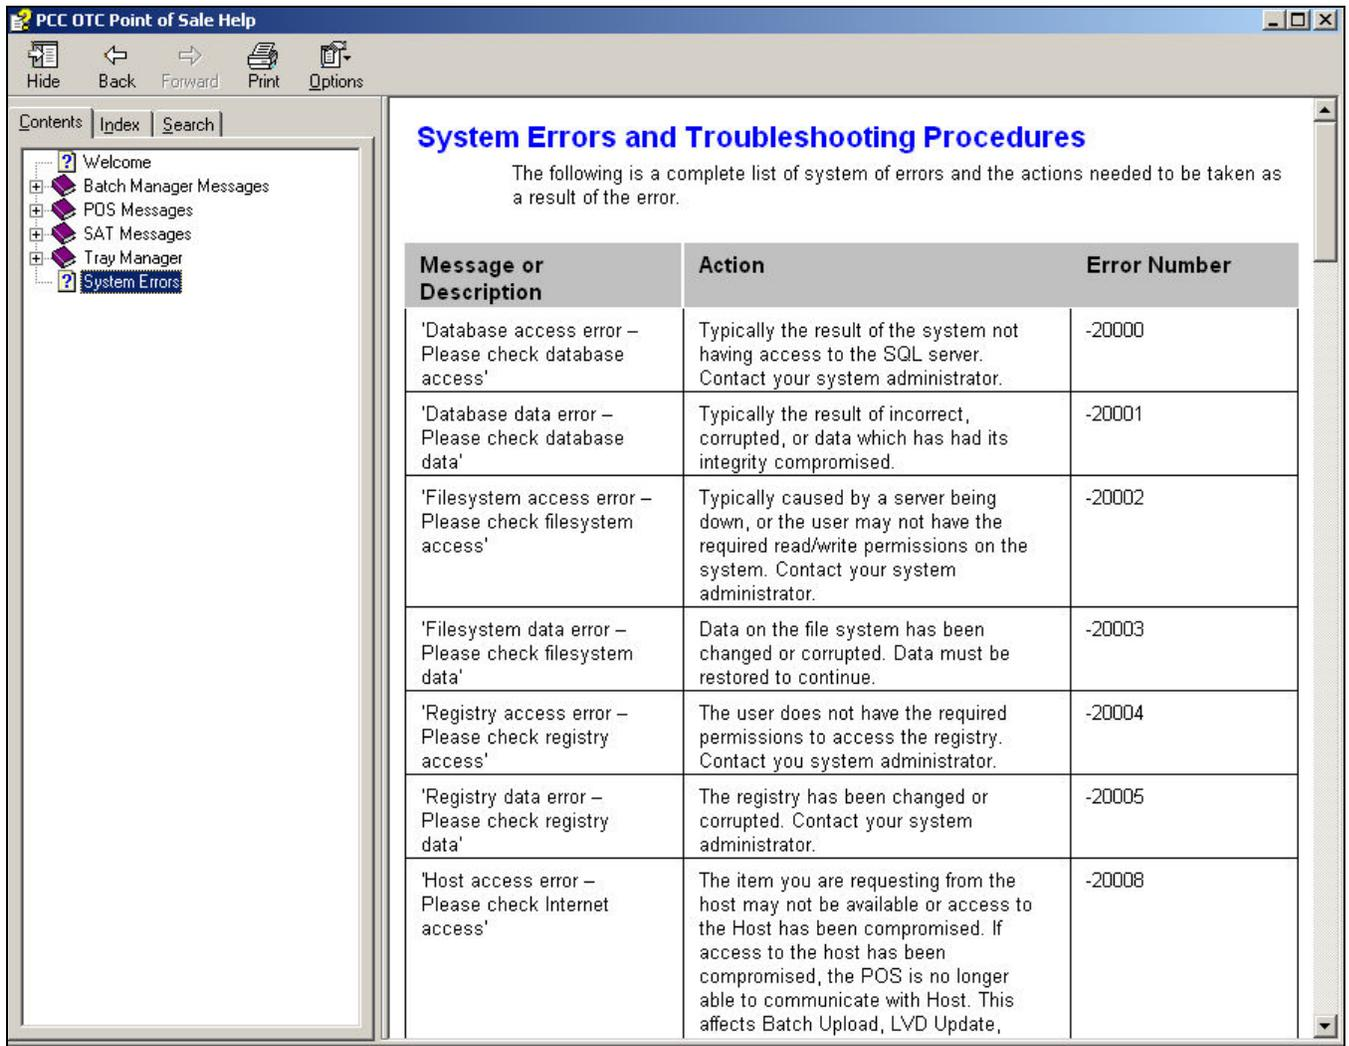

Figure 3.43
2. Click the last option in the left window called 'System Errors'. The following screen appears (Figure 3.43)